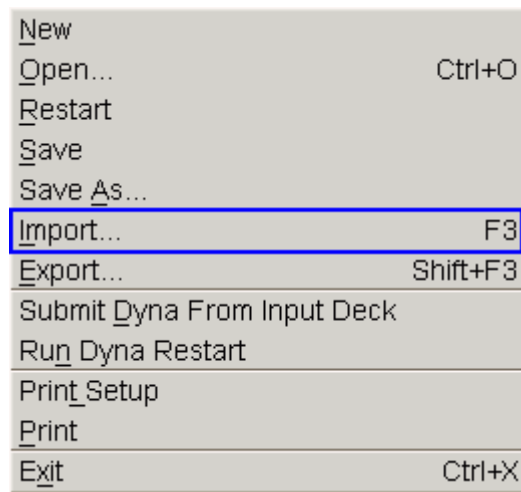

Figure 3.48: Import menu
2. Select menu **File**→**Import** as the following figure 3.48 or click the IMPORT icon